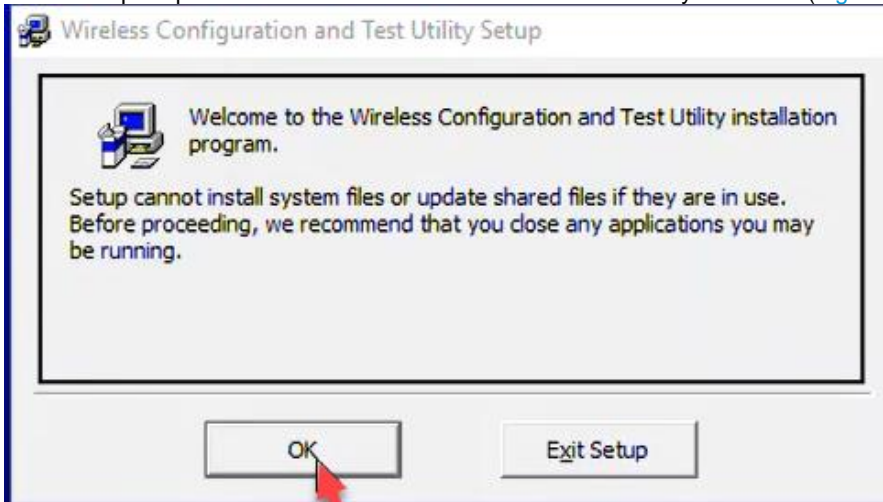

Figure 3: Follow prompts
3. Follow the prompts of the Installation software to install the Utility. Click OK (Figure 3)